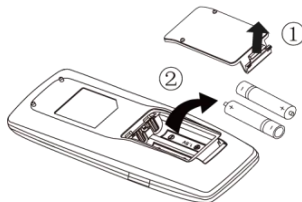

Fig.3
- (1) Slightly press the place with OPEN, and then push out the back cover of remote controller along the direction of arrow (as shown in Fig 3①).
- (2) Take out the original batteries (as shown in Fig 3②).